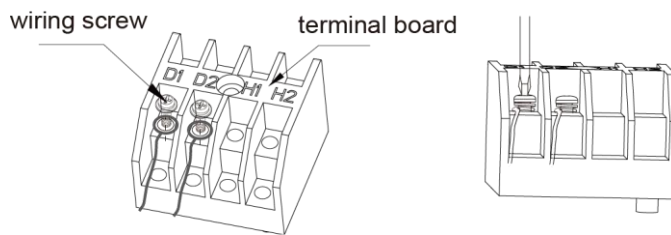

Fig 5.3.1
- (1) Detach the electric box lid.
- (2) Let the Communication cable pass through the wiring through-holes.
- (3) Connect the communication wire to terminal D1 and D2 of indoor 4-bit wiring board, as shown in fig5.3.1.